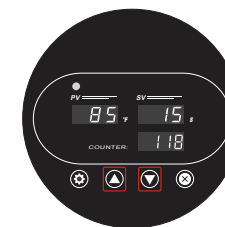

Fig. 6
6. Press Up ❷ or Down ❸ buttons to select either °F or °C (Fig. 6) OR skip this step if you are satisfied with the current selection.